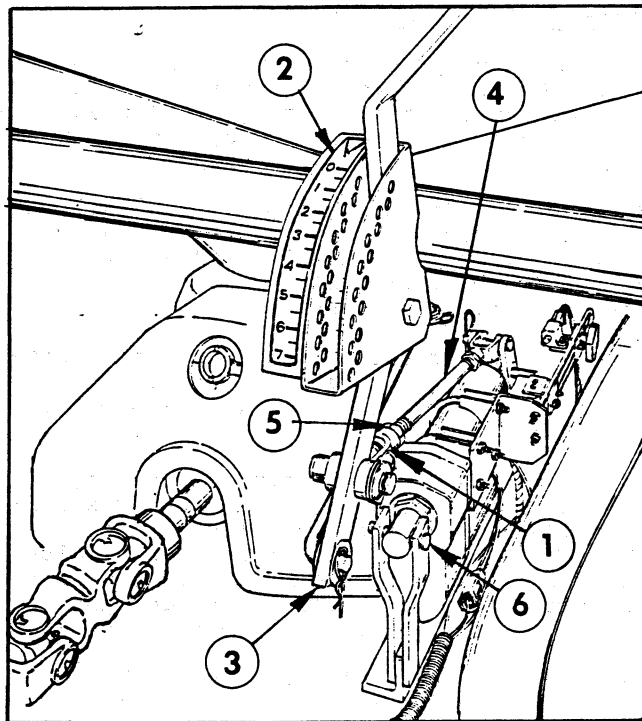

Figure 7
1. Attach the Adjustable Clevis on the Actuator Rod to the Flow Regulator Handle (see Figure 7) as follows: